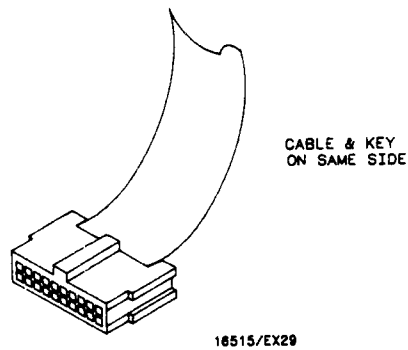

Figure A-6. Cable End
6. Connect intercard cable to the timing analyzer master card making sure to use the correct cable end. See figure A-6.